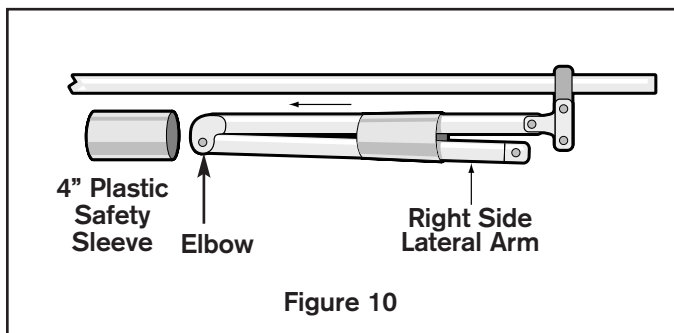

Figure 10
15. Carefully remove all packaging material from the awning. **DO NOT REMOVE THE PLASTIC SAFETY SLEEVES FROM THE ARMS.** -see Figure 10.
20. Remove the plastic safety sleeves from the arms - see figure 10.
Once a year, you may wish to lubricate the gray plastic bushing on the roller bar on the side opposite of the motor or gear crank unit. During extended use, dust may accumulate on this moving part and may cause a minor squeak as the awning opens or closes. Any type of light lubricant will eliminate this type of noise. You may also wish to lubricate the pivot point of the lateral arm elbows. - see figure 10